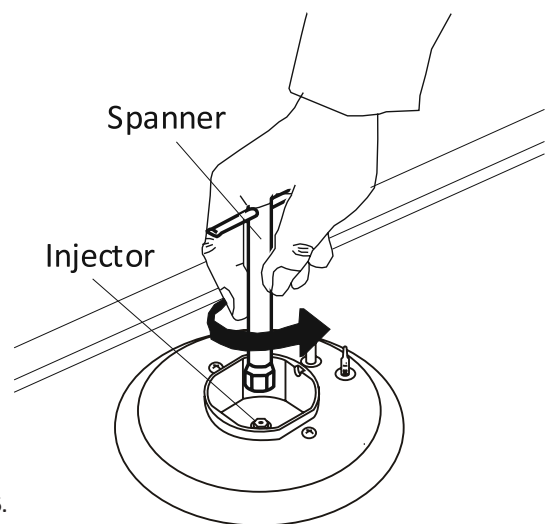

Fig 5.
- Unscrew the injectors. For this, use a 7mm spanner (**Fig 5**).